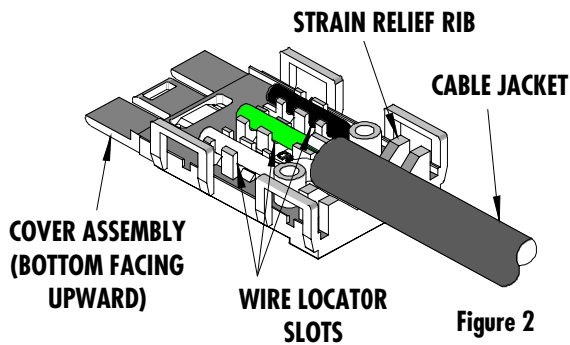

Figure 2
2. Position the clear cover (bottom facing upward) as shown in Figure 2.
3. Position wires into locator slots. Be certain to place black wire in slot marked BLK, green or bare wire in slot marked GRD, and the white wire in the third slot. Upon final positioning of all wires, be certain the end of the cable jacket is a minimum of .06" past the second strain relief rib as shown in Figure 2.